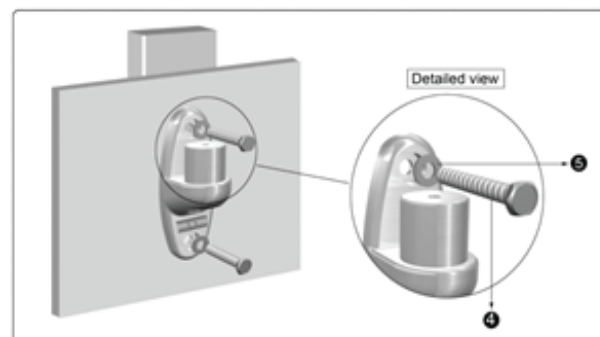

Figure 3
3. Insert Phillips Screw ST6.3x65mm (4) through Washer (5), Wall Plate (3) and finally into pilot hole. Repeat for remaining Phillips Screws. Tighten Philips Screw securely. (See Figure 3)